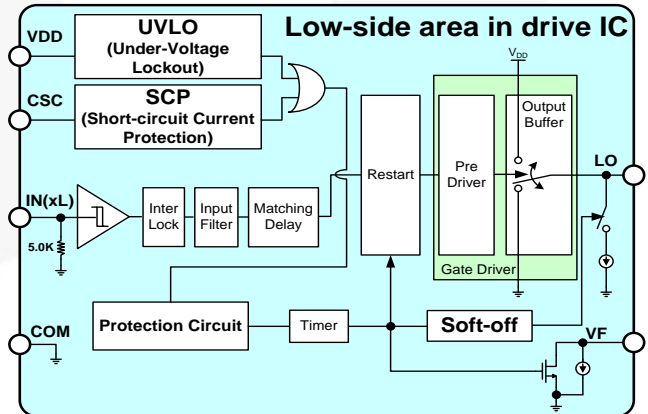
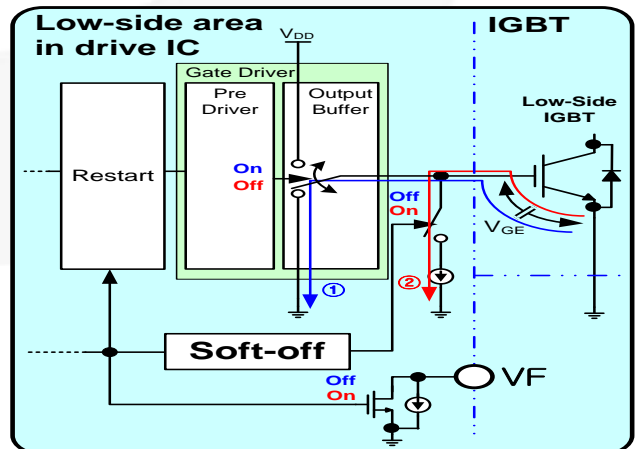

Figure 21. Internal Block Diagram of Gate Drive IC
Figure 22. Operating Sequence of Soft Turn-Off
An internal block diagram of low side and operation sequence of soft turn-off function are shown in Figure 21 and Figure 22. This function operates by two internal protection functions (UVLO and SCP). When the IGBT is turned off in normal conditions, gate drive IC turns off the IGBT immediately by turn-off gate signal ( $IN_{(XL)}$ ) via gate driver block. Pre-driver turn-on output buffer of gate driver block, path ①. When the IGBT is turned off by a protection function, the gate driver is disabled by the protection function signal via output of protection circuit (disable output buffer, high-Z) and output of the protection circuit turn-on switch of the soft-off function.  $V_{GE}$  (IGBT gate-emitter voltage) is discharged slowly via circuit of soft-off (path ②).